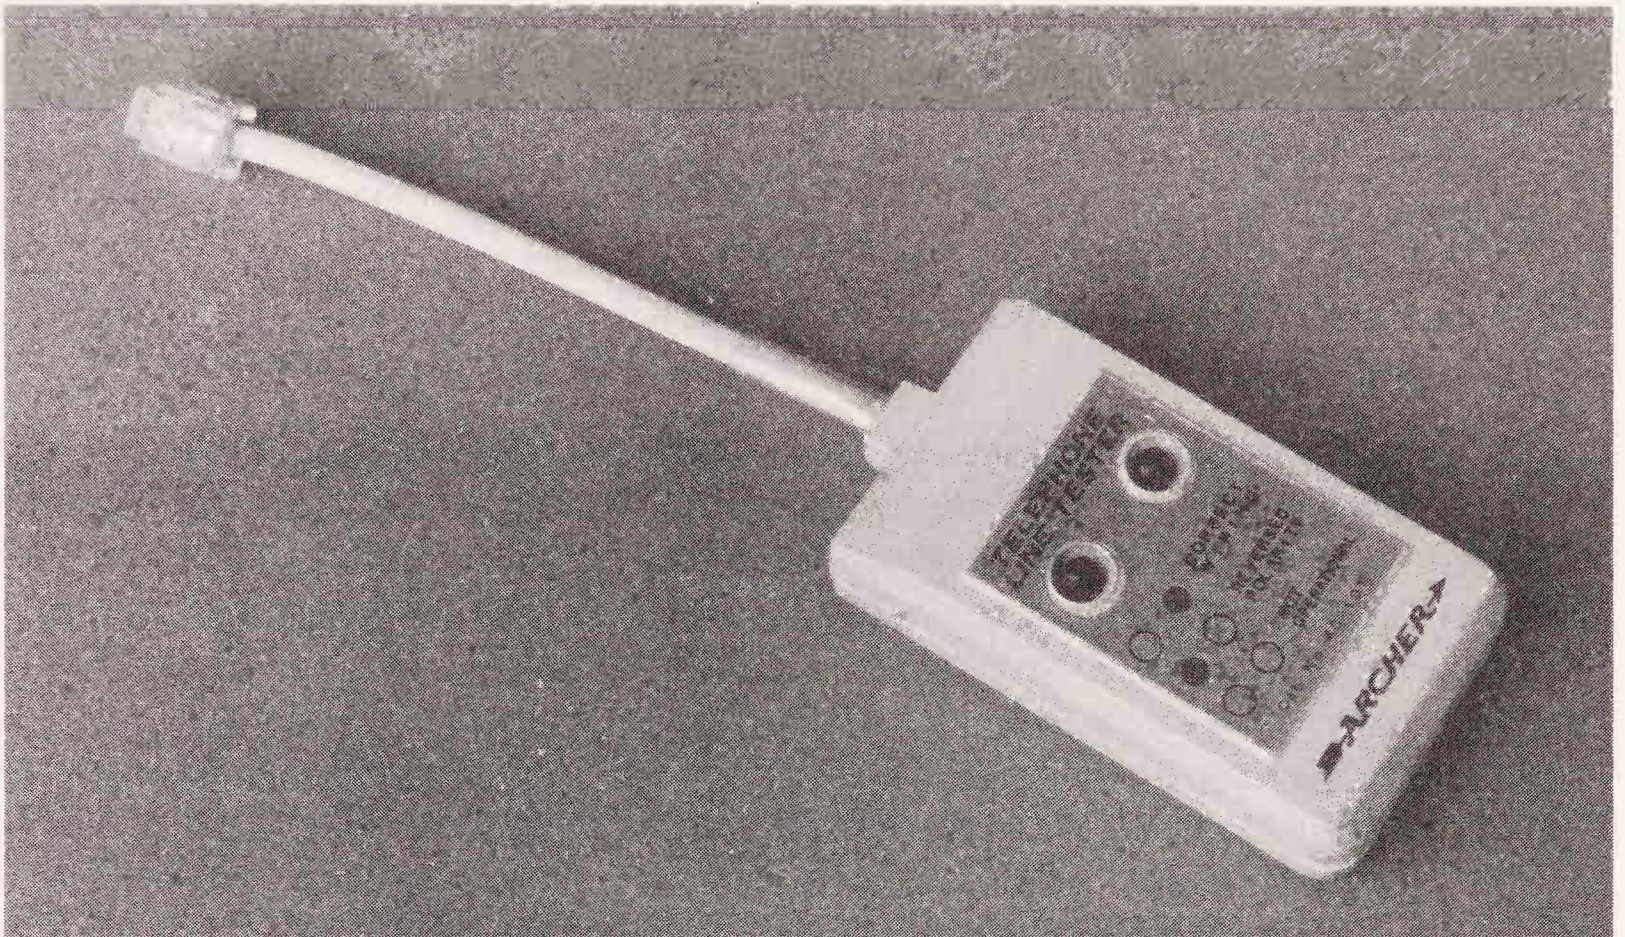

Fig. 3-6. A telephone line tester, which is available for only a few dollars from Radio Shack.
- Use a telephone line tester, such as the one shown in FIG. 3-6. This model is available at Radio Shack and it currently is available in two flavors: a single-line tester